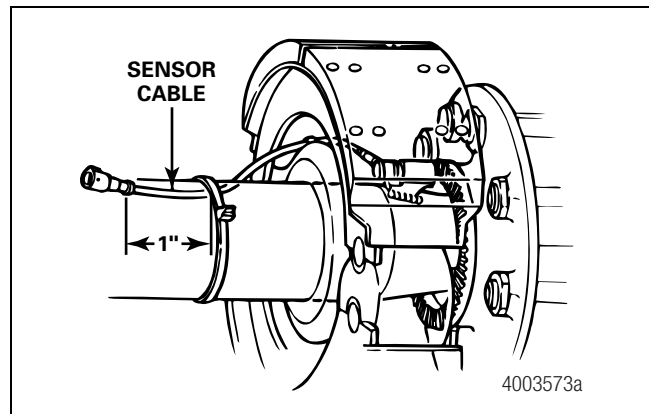

Figure A-2
4. Route the sensor cable toward the brake chamber, over the brake spider or through the pre-stamped hole reserved for ABS sensors. Route to the back side of the axle. Secure the cable to the axle between the brake spider and the suspension brackets. Continue to route the sensor cable behind the spring seats. Secure the cable to the axle one inch from the molded sensor plug. Figure A-2.